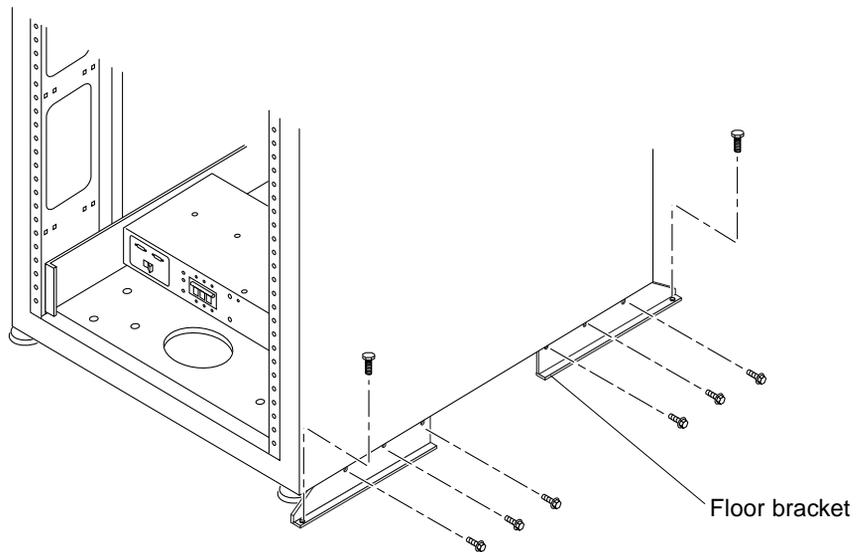

FIGURE 3-6 Attaching the Floor Brackets
- 2. Using a 7/16-inch wrench, attach the right floor brackets to the front and back of the rack (FIGURE 3-6).**